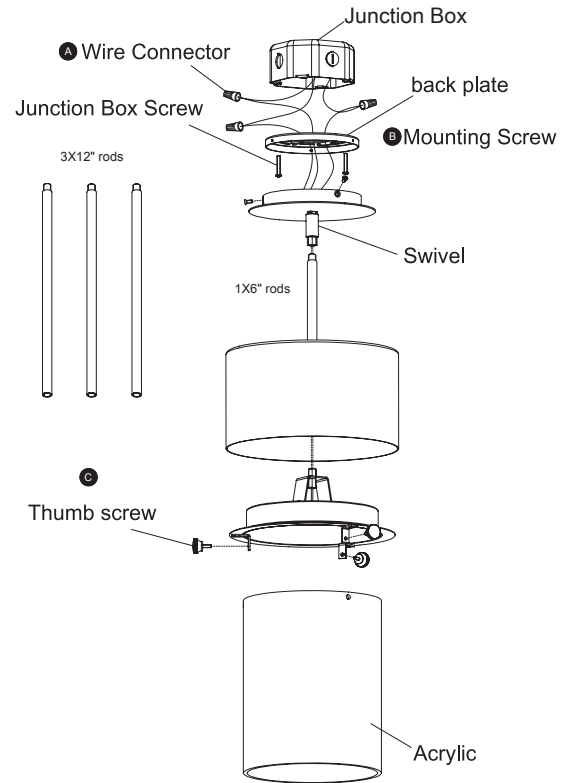

Fig.2 Wiring
### CONNECTING THE WIRES (Fig. 2)
7. Cut the extra wire. Connect the fixture wires with junction box wires as shown in Fig.2, making sure that all wire connectors (A) are secured. If your outlet box has a green or bare copper ground wire, connect the fixture's ground wire to it. Otherwise, connect the fixture's ground wire directly to the mounting plate using the green screw provided. After wires are connected, tuck them carefully inside the junction box.
### COMPLETING THE INSTALLATION (Fig. 2, 3, 4)